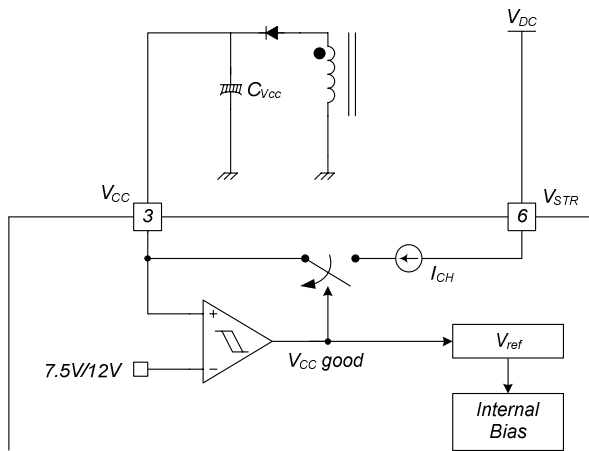

Figure 17. Startup Block
**1. Startup:** At startup, an internal high-voltage current source supplies the internal bias and charges the external capacitor ( $C_{VCC}$ ) connected to the  $V_{CC}$  pin, as illustrated in Figure 17. When  $V_{CC}$  reaches 12V, the FSGM0465RB begins switching and the internal high-voltage current source is disabled. The FSGM0465RB continues normal switching operation and the power is supplied from the auxiliary transformer winding unless  $V_{CC}$  goes below the stop voltage of 7.5V.